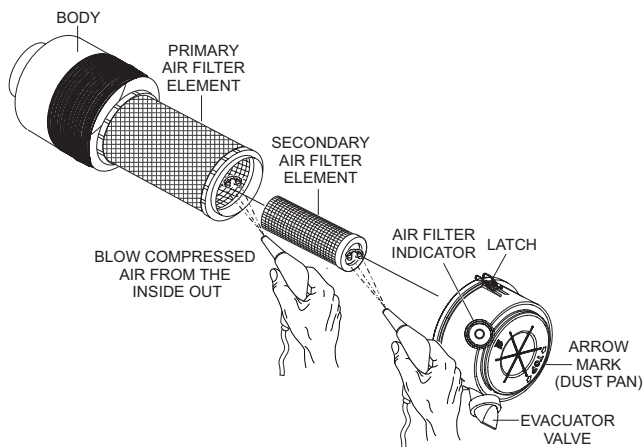

Figure 78. Engine Air Cleaner
The air cleaner (Figure 78) provided with this Volvo diesel engine is equipped with a replaceable, high-density, paper air filter element. The air cleaner is also equipped with an inner (secondary) element that is used as a backup filter should the primary element become damaged. Check the air cleaner daily or before starting the engine. Replace the air cleaner as needed.
1. Release the latches that secure the cover to the air cleaner body (Figure 78).
2. Remove the **air cleaner cover** (Figure 78) and set it aside.
3. Remove both the primary and secondary air cleaner elements (Figure 78).
5. To clean the **primary element** (paper air filter) as shown in Figure 78, tap the filter element several times on a hard surface to remove dirt, or blow compressed air, not to exceed 30 psi (207 kPa, 2.1 kgf/cm²), through the filter element from the inside out.
8. Clean the inside of the **air cleaner body** (Figure 78).